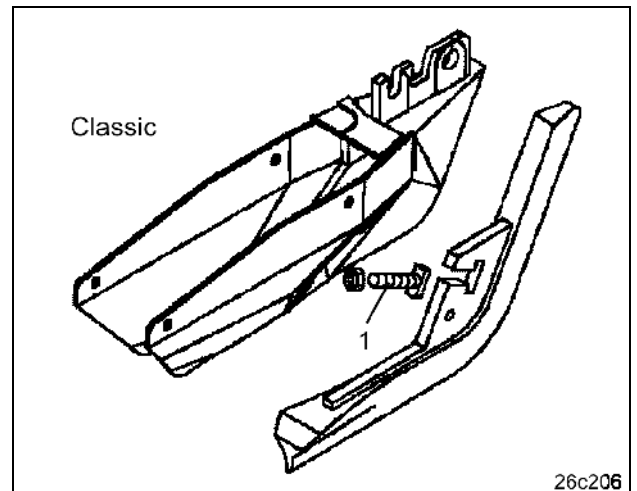

Fig. 200
- Slacken bolted connection (Fig. 200/1)